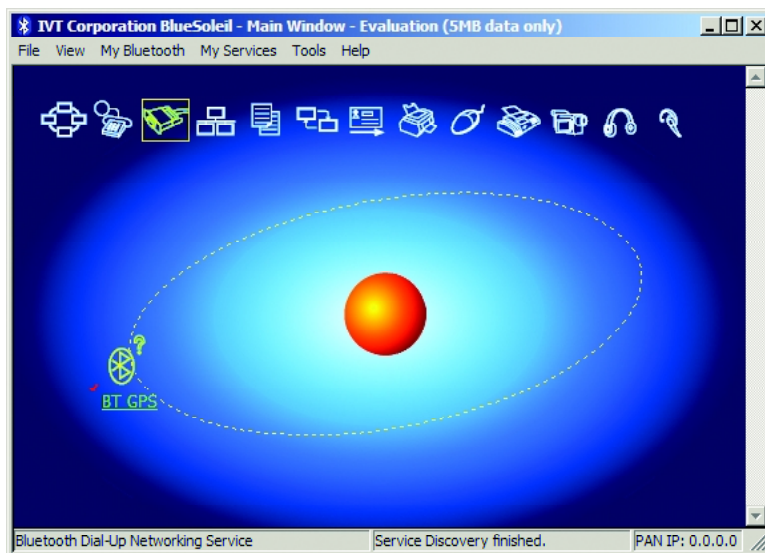

Figure 8 : The yellow box will appear to cover the Serial Port Service icon after checking the serive of ZX-BLUETOOTH (in BT_GPS name)
7. Click the right-button mouse at the BT GPS device and select Refresh Services for checking the device service. The yellow box will appear at the Bluetooth Serial Port Service following the figure 8. User can send and receive the serial data via 2 wires; TxD and RxD.